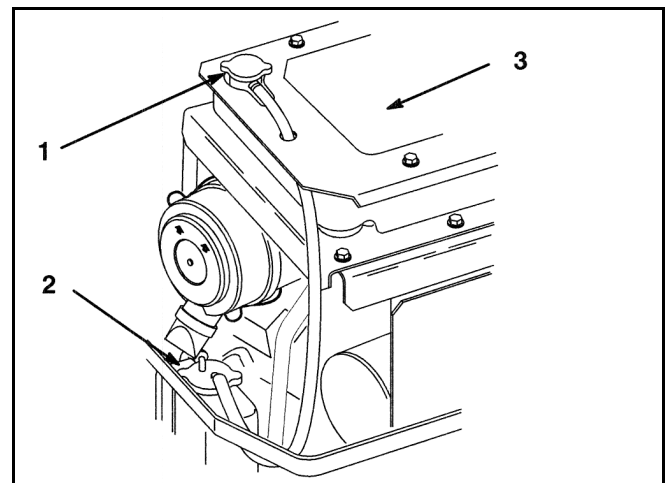

Figure 8
3. With the engine cool, remove the radiator cap (Figure 8).
6. Add a 50/50 coolant mix to the overflow bottle and fill it to the indicator line on the bottle, if required (Figure 8).
6. Remove debris from the radiator core and engine (Figure 8).